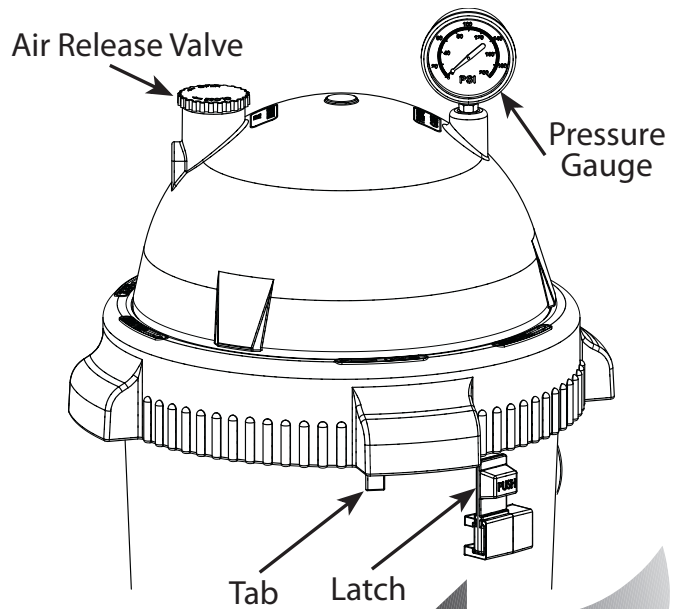

Figure 2
2. Install the pressure gauge and the air release valve (see Figure 2) on the tank lid.